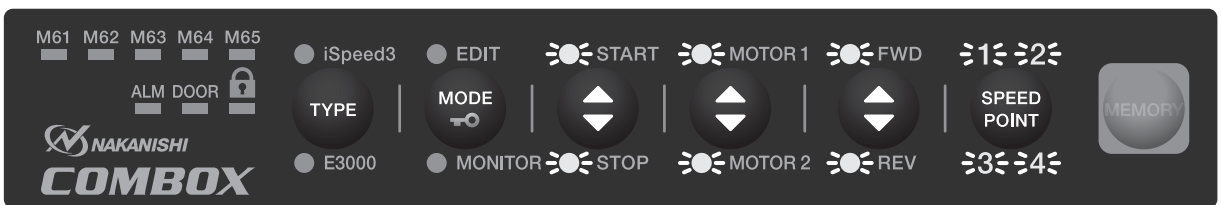

Fig. 29
3. Initialization causes all LED's to blink three times (Fig. 29).